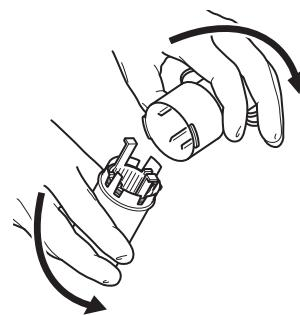

Figure 9 Remove Manifold Lid
- Remove the manifold's lid after the surgical procedure (Figure 9).